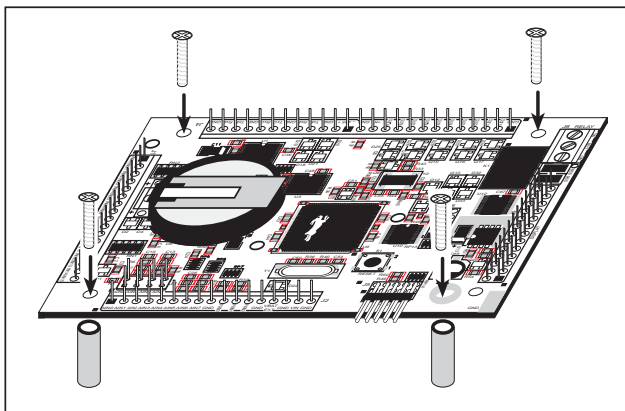

Figure 2. Attach Stand-Offs and Remove Battery Cap
1. Use the 4-40 screws supplied with the Tool Kit to attach the metal standoffs to your LP3500 series board as shown in Figure 2.